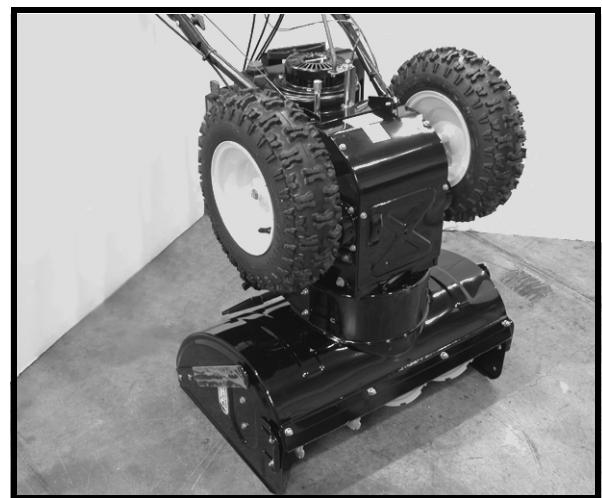

FIGURE 2
6. Using the handles, tip the snow thrower forward so that the unit is resting on the front of the auger housing. See Figure 2. Check for oil or fuel leaks.